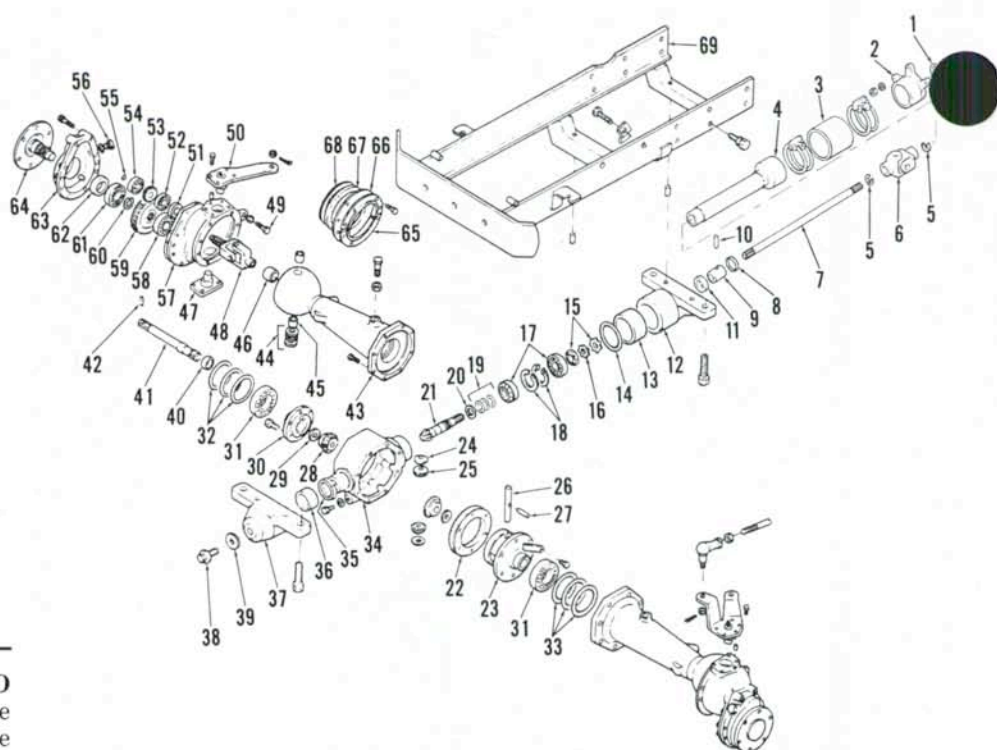
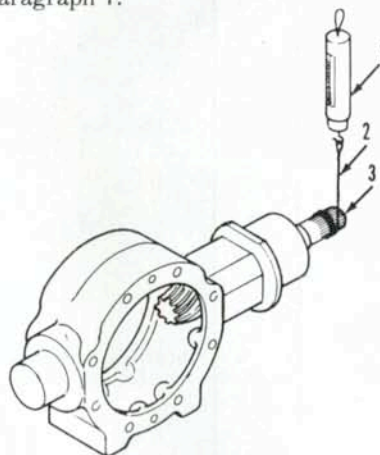
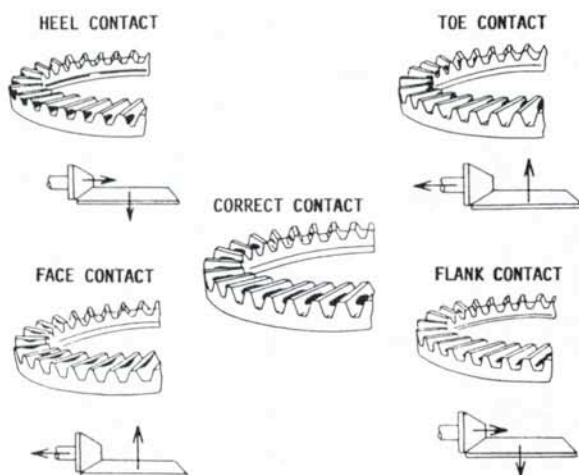

Fig. 7—Exploded view of front wheel drive axle used on 1100 and 1200 models.
Fig. 10—Wrap a cord (2) around pinion shaft (3) and use a spring scale (1) to check pinion rolling torque. Refer to text for adjustment.
Fig. 12—Drawings showing examples of drive pinion to ring gear tooth contact. Desired tooth contact pattern is shown in center drawing.
Inspect axle pivot bushings (13 and 36—Figs. 7, 8 and 9) for wear or damage. Renew bushings if clearance
Stop bolts (49—Figs. 7, 8 and 9) should be adjusted to provide correct turning radius and to prevent drag link interference. Stop bolt setting is measured from head of bolt to surface of mounting pad. Correct length is 24 mm (15/16
4. OUTER DRIVE ASSEMBLY. To remove the outer drive, first remove wheel and tire. Detach drag link and tie rod from axle steering arm. Remove plates and seal parts (65 through 68—Figs. 7, 8 and 9). Support the outer drive unit, then unbolt and remove king pins (47 and 50). Withdraw assembly from axle housing (43).
On early 1100 and 1200 models, universal joint (48—Fig. 7) is integral with shaft for outer pinion gear (53). To remove universal joint first separate outer cover (63) from housing (57) and remove snap ring (55) from end of shaft. Tap universal joint and shaft out of bearings (52 and 54) and pinion gear. Remove wheel axle (64), gear (59), bearings and seals from outer cover and housing.
The differential and ring gear (22 through 30—Figs. 7, 8 and 9) can be removed after unbolting and separating axle shaft housings from center housing (34). Bevel pinion (21) can be removed after removing nuts (15) from shaft.
Install drive pinion (21) in center housing using shims (19) that were originally installed for initial assembly. To adjust pinion bearing preload, wrap a cord around pinion shaft as shown in Fig. 10. Use a spring scale to measure pull required to rotate the shaft. Tighten inner nut (15—Fig. 7, 8 or 9) until spring scale reading is 5-6 kg (11-13 pounds) for 1100 and 1200 models; 5½-7 kg (12-13 pounds) for 1300 and 1500 models; 11-15 kg (24¼-33 pounds) for 1700 and 1900 models. Install washer (16) and tighten outer nut (15), then recheck rolling torque.
6. DIFFERENTIAL CARRIER BEARING PRELOAD. To adjust carrier bearings, first attach right axle housing to center housing (34—Fig. 7, 8 or 9). Place housing in vertical position with center housing up. Assemble sufficient thickness of shims (32) in housing bore to make sure that ring gear will not contact drive pinion, then install differential assembly in center housing. Be sure that carrier bearing is properly seated in axle housing bore.
Apply Prussian Blue to pinion gear teeth. Rotate pinion and note gear teeth markings made on ring gear as shown in Fig. 12. If necessary, adjust pinion gear position by changing thickness of shims (19—Fig. 7, 8 or 9) to obtain desired tooth contact. Note that if pinion gear is moved, ring gear must also be moved to maintain recommended backlash.